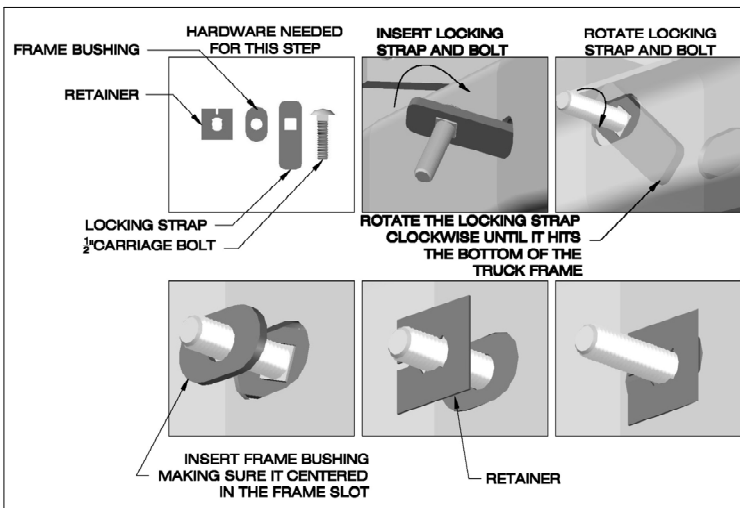

Figure D1.
1. **Install side plate studs.** Locate indicated hardware needed for this step and have it handy, see Figure D1.